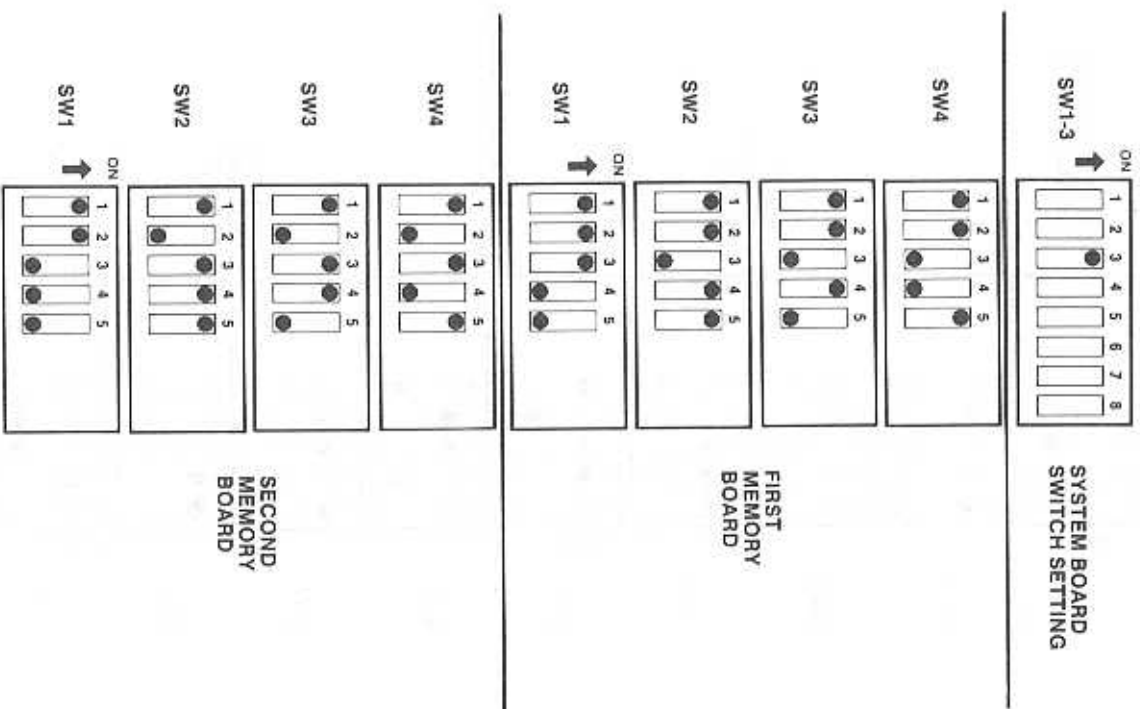

Figure 9-3. Memory Switch Setting When SW1-3 Is ON
2. If the system board is set for 1M byte or 256K/512K of memory (SW1-3 ON), set the switches as shown in Figure 9-3. Figure 9-3 shows the settings for the first and second memory boards.